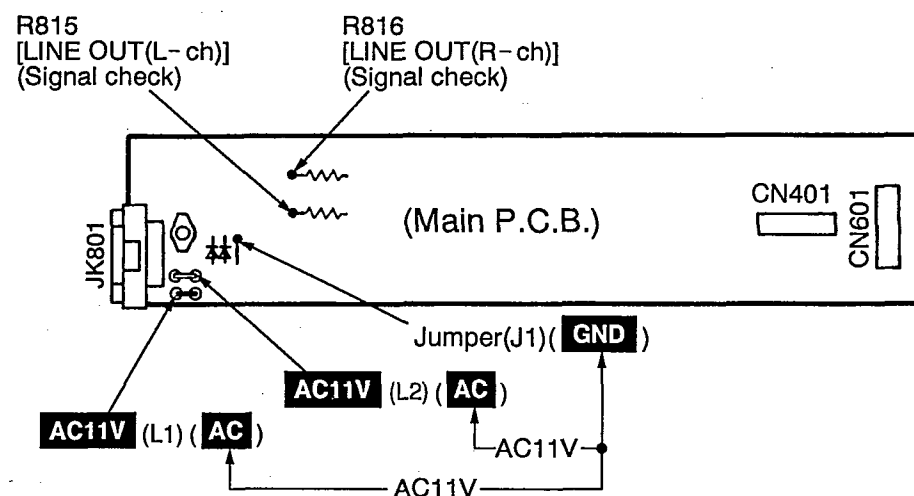

Fig. 1
Apply 11V AC power to the section between **AC11V (AC)** of the coil (L1) and the jumper J1 (**GND**) as well as the section between **AC11V (AC)** of the coil (L2) and the jumper J1 (**GND**). (10V AC power can be also applied when using power supply tool.) (Shown in Fig. 1)
Connect the oscilloscope or the speaker with built-in amplifier to the section between LINE OUT (Lch) of the resistor R815 and the GND point of the jumper J1 as well as the section between LINE OUT (Rch) of the resistor R816 and the GND point of the jumper J1 and check if the signals are outputting from this unit. (Shown in Fig. 1)